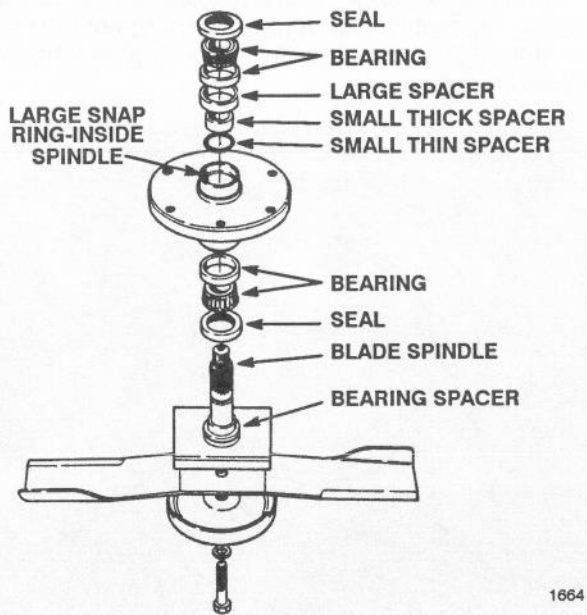
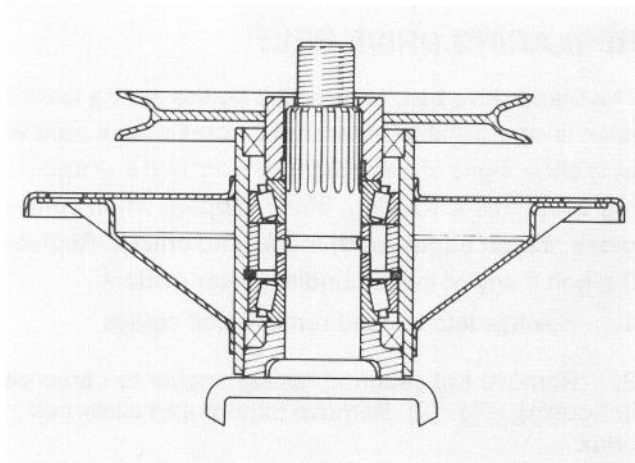
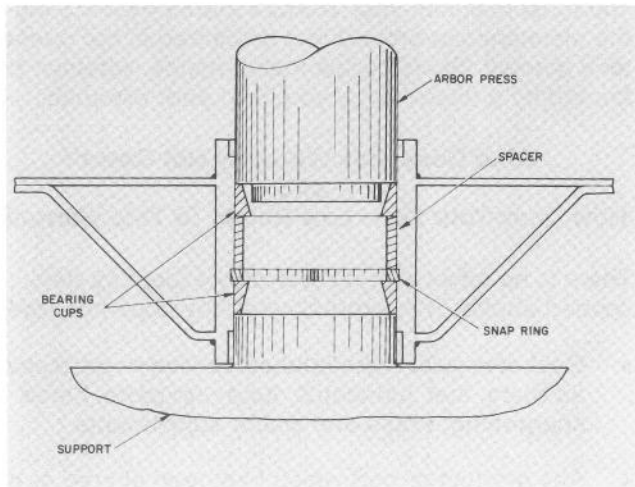

Figure 22
Figure 23
Figure 24
5. If spindle shaft will be replaced, move bladebolt, lockwasher, anti-scalp cup and blade from spindle shaft (Fig. 22). Otherwise, the blade and its other associated parts may be left on the spindle shaft.
6. Press spindle shaft out of spindle housing (Fig. 22) using an arbor press. Bearing spacer (Fig. 22) remains on spindle shaft as shaft is being removed.
7. The seals (Fig. 22) will be removed next; however, notice the lip of the seal. The lip of the upper seal faces inward, and the lip of the lower seal faces outward. Therefore, new seals must always be installed with the lip facing in the proper direction. Now remove seals from spindle housing.
8. Allow bearings, small thick and small thin spacers to fall out of spindle housing (Fig. 22).
9. Using a punch and hammer, drive both bearing cups (Fig. 22) out of spindle housing. Also drive large spacer (Fig. 22) out of housing.
1. Install large snap ring into groove in bore of spindle housing (Fig. 23). Assure snap ring is seated in the groove.
2. Using an arbor press, push the large spacer into top of spindle housing and tightly against the snap ring (Fig. 22). Spacer must contact snap ring to be sure of correct assembly of parts (Fig. 23).
3. Thoroughly oil cups and using an arbor press, push bearing cups — smallest ID first — into top and bottom of spindle housing (Fig. 22). Top bearing cup must contact spacer that was installed in step 2, and
bottom bearing cup must contact snap ring to be sure of correct assembly of parts (Fig. 23). Insure assembly is correct by supporting the first cup and pressing the second against it (Fig. 24).
4. Apply a film of grease on lip of both seals; then install bearing and seal into bottom of spindle housing (Fig. 23). Remember though, the bottom seal must have the lip facing outward (Fig. 22) not toward inside of spindle housing.
5. Slide small thick and small thin spacers into spindle housing (Fig. 22). Then, install bearing and seal into top of spindle housing. Lip of the seal must face outward.
7. Slide bearing spacer onto spindle shaft. Carefully slide spindle shaft through spindle housing. Bottom seal and bearing spacer fit together when spindle is installed (Fig. 23).